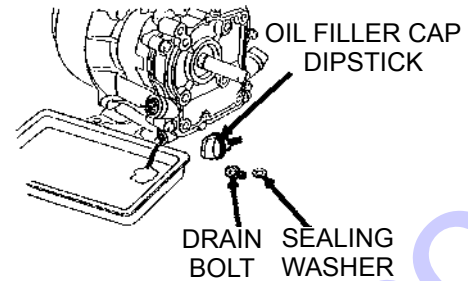

Figure 23. Engine Oil (Draining)
- Drain the engine oil when the oil is warm as shown in Figure 23.